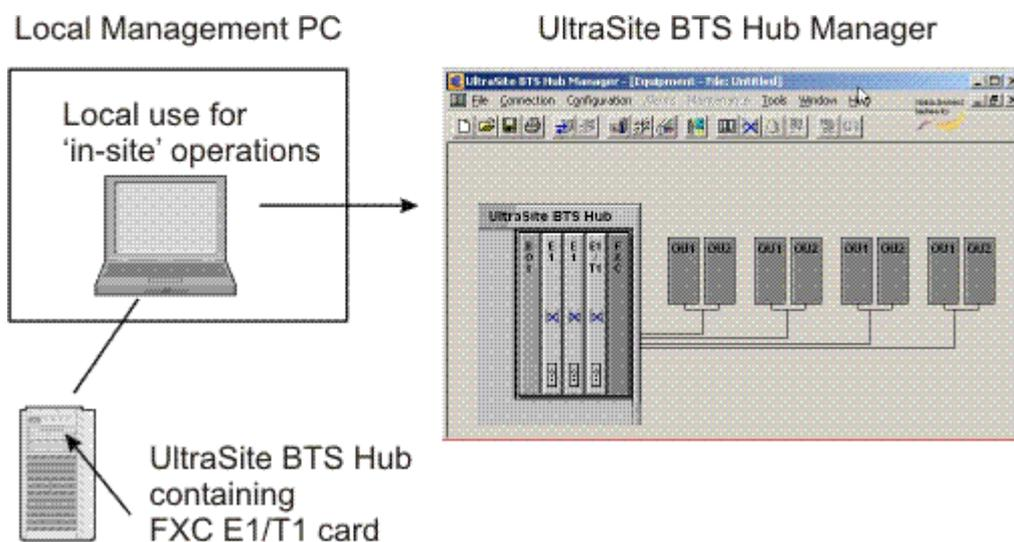

Figure 2. UltraSite BTS Hub Manager used on-site connected to the LMP Port
- Figures 2,3 and 9 have been updated